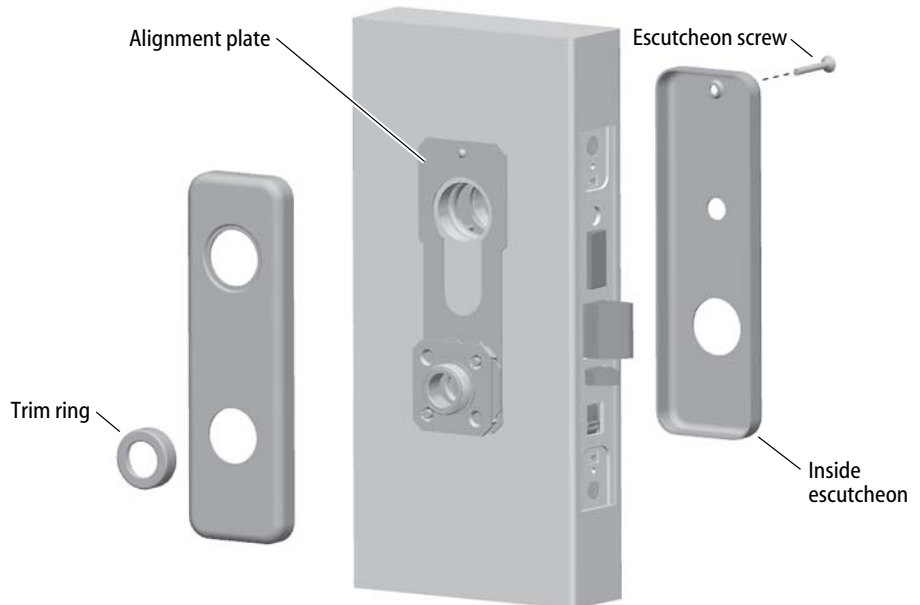

Figure 16b Installing the J trim escutcheons
- 1 For *J trim*, position the J alignment plate (Figure 16b) on the outside of the door.
For J trim (Figure 16b)